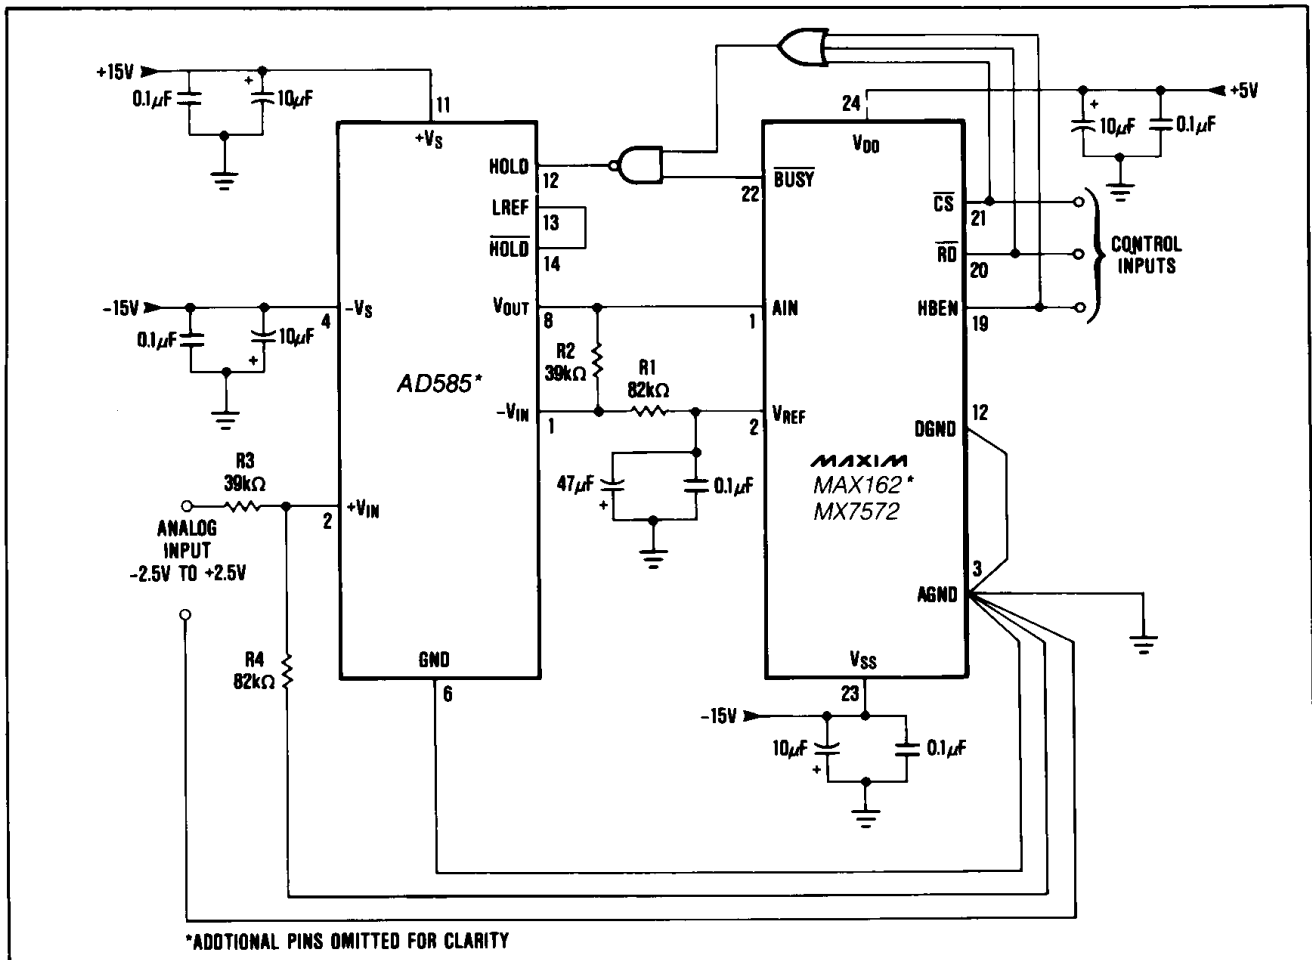

Figure 15. MX7572—AD585 Sample-and-Hold Interface
The  $\overline{\text{BUSY}}$  output from the MAX162/MX7572 may be used to provide the TRACK/HOLD signal to the sample-and-hold amplifier. However, since the ADC's DAC is switched at approximately the same time as the BUSY signal goes low, the switching transients at the output of the sample-and-hold caused by the DAC switching may result in code dependent errors due to the aperture delay of the sample-and-hold. A NAND gate may be used to ensure that the sample-and-hold switches to the hold mode BEFORE any disturbances as shown in Figures 15 & 16. The NAND gate solution works only if the width of the RD pulse is wider than the RD to BUSY delay in the MAX162/MX7572. If this is not the case, use a flip flop which is set by the falling edge of RD and reset by the rising edge of BUSY.
**MX7572** Figure 15 shows an AD585 sample-and-hold to MX7572 interface. The MX7572 RD input and BUSY output are used to put the AD585 in hold mode when a conversion is in progress. In this example the analog input range is  $\pm 2.5\text{V}$  but other voltage ranges can be configured differently as explained later.